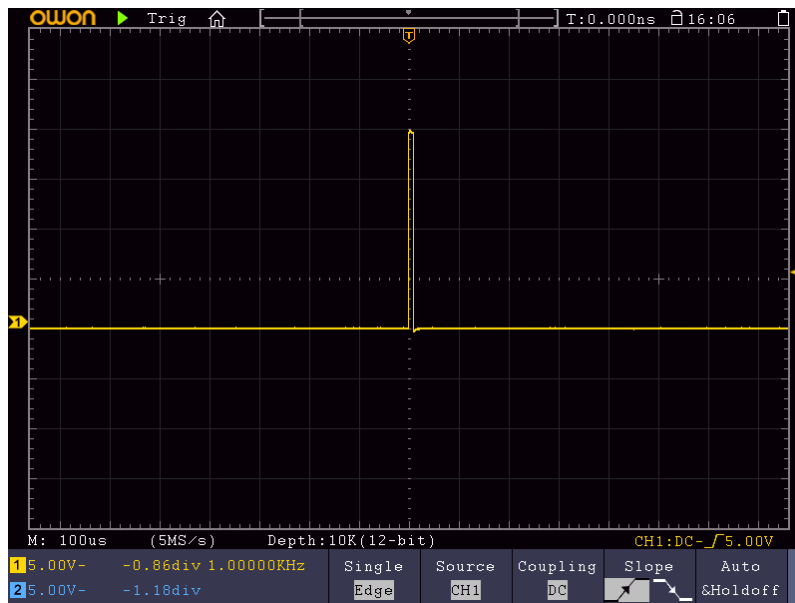

Figure 9-3 Capturing a Single Signal
- (2) Adjust the **Vertical Scale** and **Horizontal Scale** knobs to set up a proper vertical and horizontal ranges for the signal to be observed.
- (3) Push the **Acquire** button to display the Acquire menu.
- (4) Select **Acqu Mode** in the bottom menu. Select **Peak Detect** in the right menu.
- (5) Push the **Trigger Menu** button to display the Trigger menu.
- (6) Select the first menu item in the bottom menu. Select **Single** in the right menu.
- (7) In the left menu, select **Edge** as the mode.
- (8) Select **Source** in the bottom menu. Select **CH1** in the right menu.
- (9) Select **Coupling** in the bottom menu. Select **DC** in the right menu.
- (10) In the bottom menu, select **Slope** as  (rising).
- (11) Turn the **Trigger Level** knob and adjust the trigger level to the roughly 50% of the signal to be measured.
- (12) Check the Trigger State Indicator on the top of the screen, if it is not Ready, push down the **Run/Stop** button and start acquiring, wait for trigger to happen. If a signal reaches to the set trigger level, one sampling will be made and then displayed in the screen. By using this approach, a random pulse can be captured easily. For instance, if we want to find a burst burr of high amplitude, set the trigger level to a slightly higher value of the average signal level, push the **Run/Stop** button and wait a trigger. Once there is a burr occurring, the instrument will trigger automatically and record the waveform during the period around the trigger time. By turning the **Horizontal Position** knob in the horizontal control area in the panel, you can change the horizontal triggering position to obtain the negative delay, making an easy observation of the waveform before the burr occurs (see *Figure 9-3*).